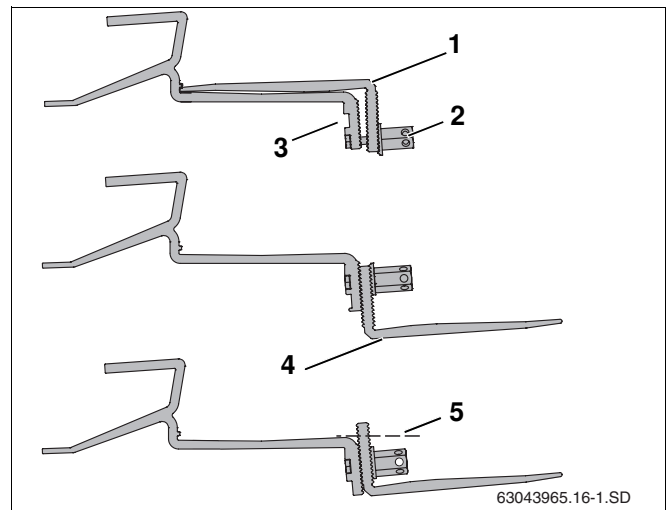

Fig. 13 Fastening roof hooks to joists
With some roof coverings it may be necessary to underlay the lower part of the roof hook (Fig. 13, **Item 4**) with boards so that the upper part of the roof hook lies on top of the tile.
- Loosen the long hexagon nut (Fig. 13, **Item 2**).
- Insert bolt into upper hole (Fig. 13, **Item 3**).
- Loosely fasten lower part of roof hook (Fig. 13, **Item 1**). Do not tighten the connection yet.